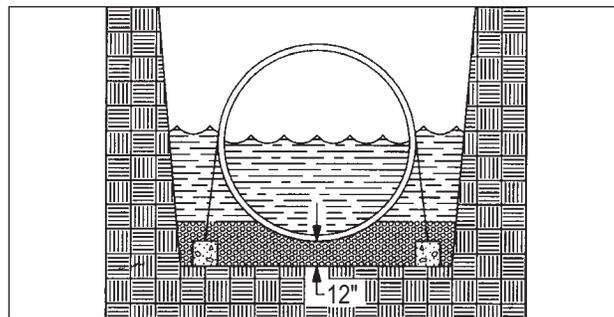

FIGURE 8-3
8.3.1.3. During Point 8.2.3. of the dry-hole installation, when setting and leveling the tank, partially ballast the tank until it settles firmly on the prepared bed. The ballast level in the tank must never exceed the water level in the hole by more than 1 foot until the backfill reaches the top of the tank. (See FIGURE 8-3.)